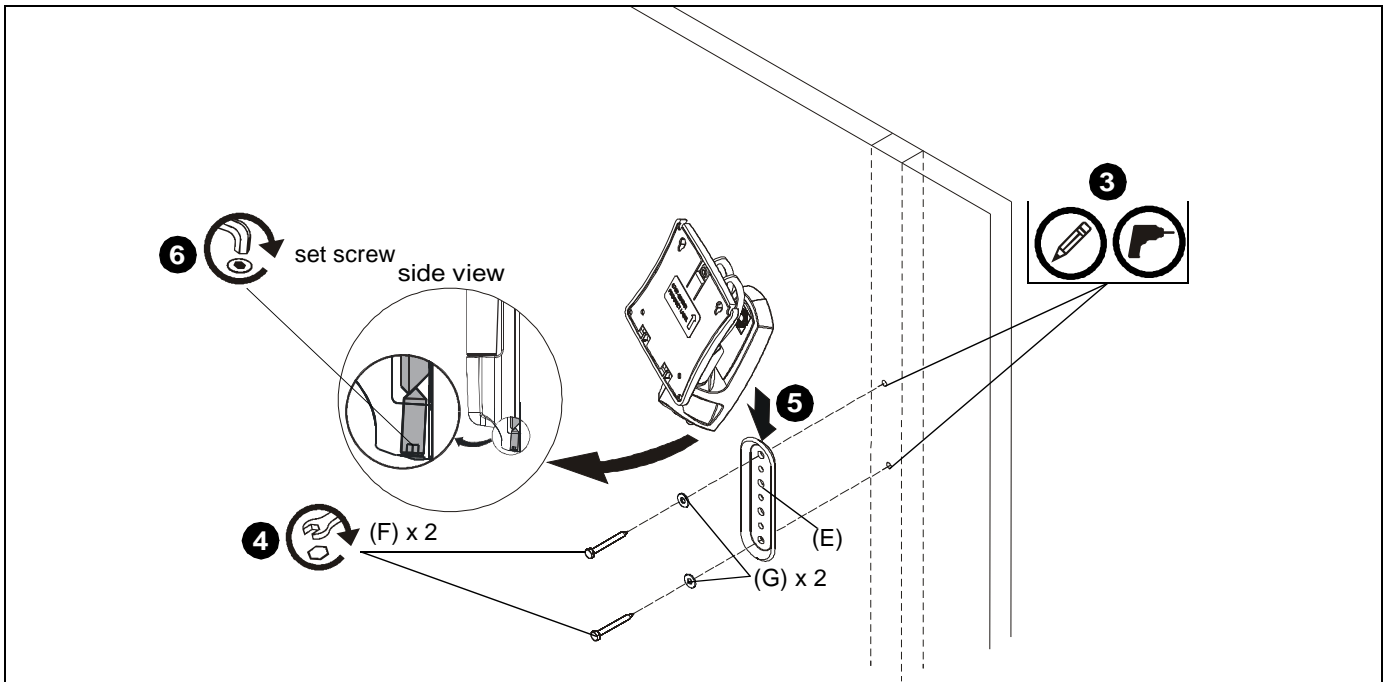

Figure 1
3. Use wall bracket (E) to mark and drill two 1/8 x 2 1/2" holes in wall at desired mounting location. (See Figure 1)
4. Use two 1/4-2 1/2" hex head lag screws (F) and two 1/4" washers (G) to install wall bracket (E) onto wall. (See Figure 1)
5. Hang monitor arm (A) over wall bracket (E). (See Figure 1)
6. Secure monitor arm to wall bracket (E) by tightening set screw. Ensure set screw engages back side of wall bracket (E) to properly secure mount. (See Figure 1)